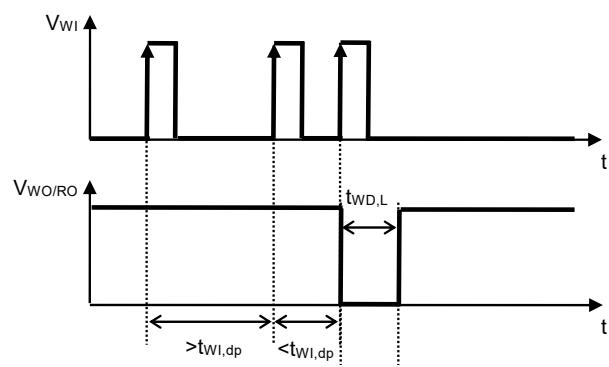

Figure 10 Watchdog Double-pulse Detection Time
- \*3. The time from when the watchdog timer initiates the detection of a trigger signal to when a trigger is detected again before  $t_{WI,dp}$  elapses and the WO / RO pin output changes to "L" (Refer to **Figure 10**). This value changes according to  $C_{DLY}$ .